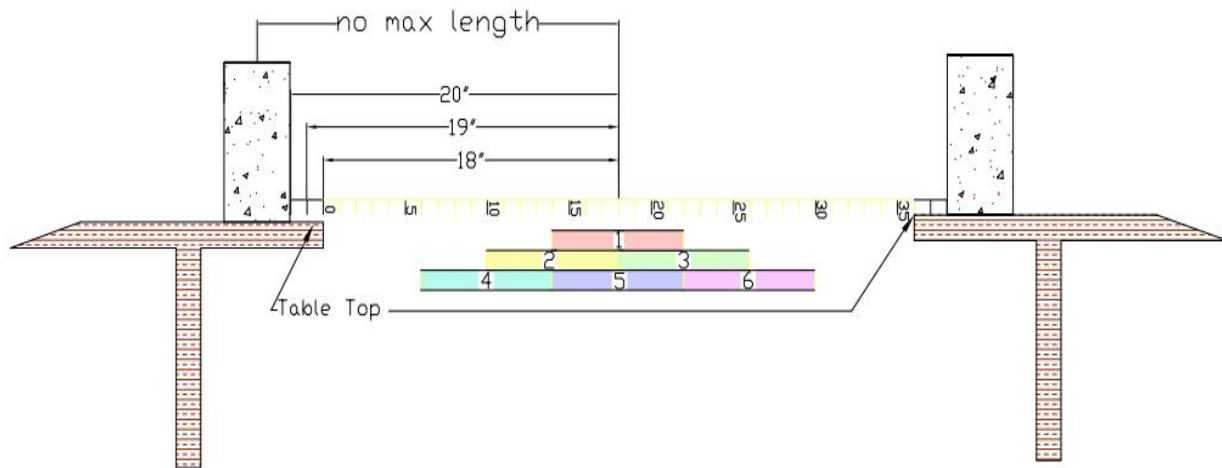

Figure 7: Possible Loading Positions
- The roadway/loading surface must be provided at all potential wheel support locations (refer to Figure 7). Since the truck that is loaded has “wheels” that are each 2” wide, the roadway shall have enough material to prevent the wheel from falling through. There should not be any obstructions that would prohibit the truck from “driving” across the bridge span.
2. The truck will be placed on the loading surface at a point that will be determined by the roll of a die at the beginning of the competition (see Figure 7). The random point will remain the same for all teams. A load transfer bar will be placed across the top of the truck with chains connected at each end extending downward to connect to a loading platform beneath the structure. Each student will then load their own structure by placing the supplied weights onto the loading platform until failure.
4. The loading apparatus (truck + loading platform) must be capable of being supported on the loading surface (roadway) as shown in the diagram. This means that your structure **MUST** have enough roadway surface for the truck to be placed at one of the six locations along span (see Figure 7), but does not need a continuous surface. The roadway should be reasonably level (some arch is permitted) from one end of the bridge to the other without obstruction. Bridges with roadways that have excessive slope causing the truck to slide off of the bridge will be disqualified.